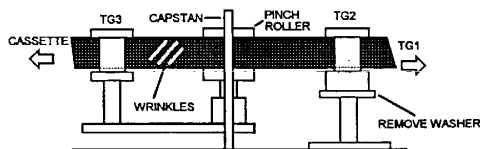

Figure 12
**Remedy:** Lower the T2 guide by removing a 0.13 mm washer from the T2 guide (see Figure 12).